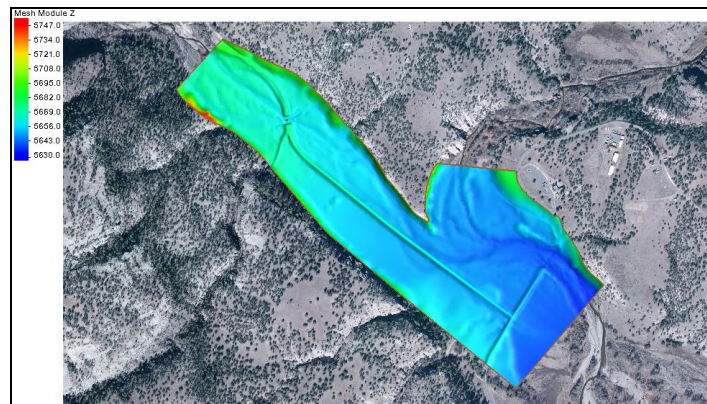

Figure 1 Gila_Flow.sms project
4. Click **Open** to import the project file and close the *Open* dialog. The Graphics Window will appear as in Figure 1.